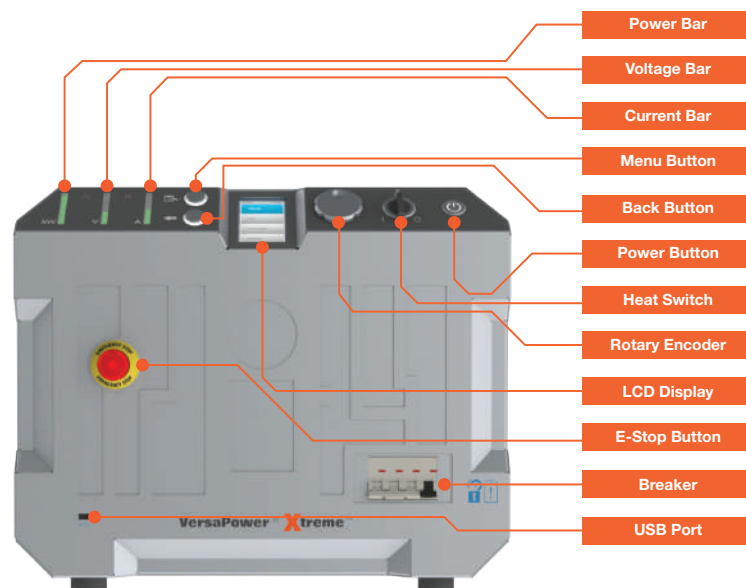

Figure 6-1: Front Panel View
**Figure 6-1** shows the physical actuators and indicators that are located on the front equipment panel of the VersaPower®-Xtreme™ induction power supply.